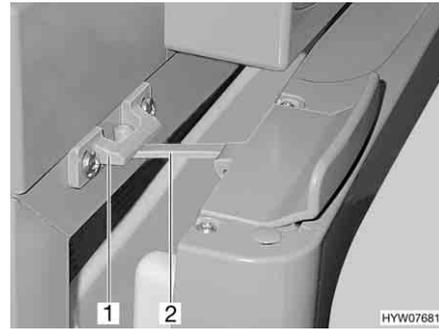

Fig. 174 Refrigerator door in ventilation position (Thetford)
- Open the lock (Fig. 174,2) and snap it into the locking catch (Fig. 174,1). The refrigerator door will then stay slightly open.